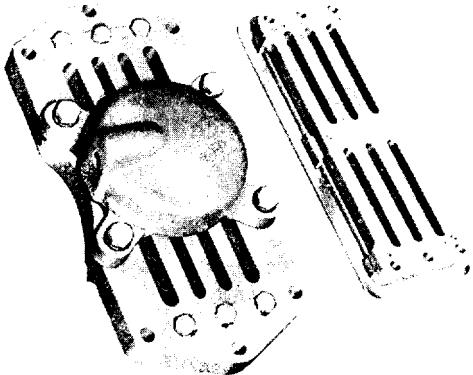

Fig. 7RN-1—Type "A" NL Rectangular Channel Valve Inlet With Free Air Unloader Assembled at Left, Discharge at Right.
The Type "A" NL rectangular channel valve (Fig. 7RN-1) is an automatic compressor valve; that is, the valve is opened or closed by difference in pressure across the valve and not by mechanical linkage. NL Channel Valves are designed to operate for long periods without oil or other lubricant by eliminating all moving metal to metal surfaces.
1. The Type "A" NL rectangular inlet channel valve consists of an inlet valve seat, seat plate, valve guide holders, guides, valve channels which seat over and close a corresponding number of ports in the seat plate, wear strips, an arched leaf spring for each channel, and an inlet stop plate which limits the lift of the channels. The Type "A" NL rectangular discharge channel valve consists of a seat plate, valve guide holders, guides, channels, wear strips, springs, and a discharge stop plate. Figure 7RN-2 is an exploded view of the Type "A" NL rectangular inlet and discharge channel valve and shows valve relationship to the port plate.